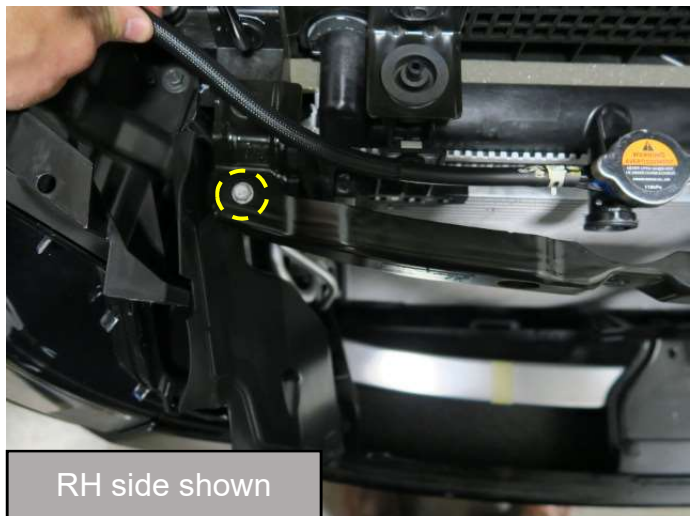

Figure 11
14. Remove the LH side and RH side securing bolts. (Figure 11)